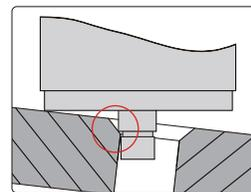

fig.1
- Put the chamfer height gage obliquely into the workpiece (fig.1) so that the groove of the probe touches the lower edge of the chamfer, slowly straighten chamfer height gage, so that the probe and the inner wall of the workpiece completely fit.